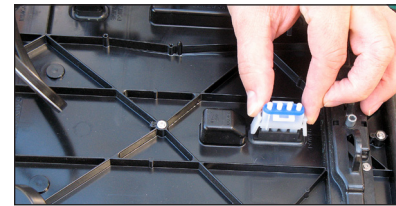

Figure 5: Remove Plug From Power Jack on Spare Module
4. Remove the plug inserted into the power jack. Refer to **Figure 5**. Store the plug and cable in an area free of debris for future use with replacement modules.